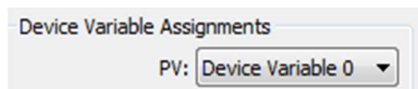

Figure 5.40 Selection of device variables
1. Select the "detailed design"-"device variable assignment"-"device variable assignment" corresponding to the "main variable" drop-down box, as shown in Figure 5.40:错误!未找到引用源。